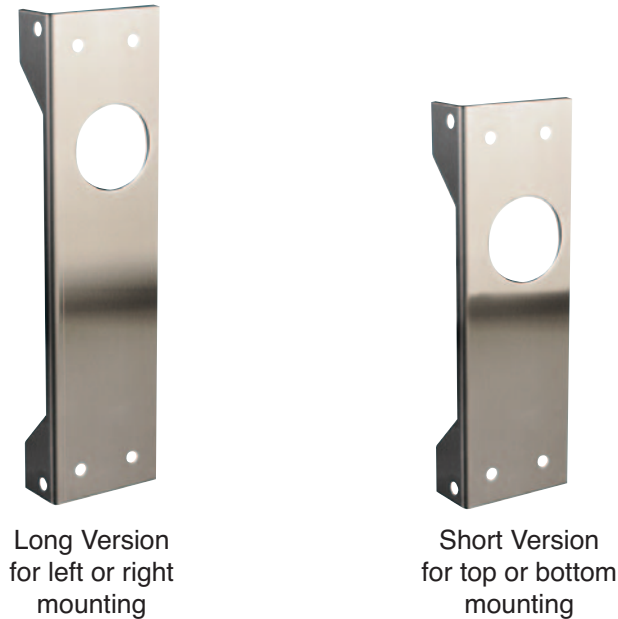

Figure F-6
As a purge and pressurization system the AP-01 requires the purged enclosure be provided with a minimum of one (1) relief valve (vent) appropriate for the configuration of the enclosure. (See Figure F-6 on page 17 for vent configurations) The purged enclosure must be capable of withstanding a minimum of 0.4 psi (11.1 inch of water) differential pressure.
All mounting holes are 9/32” diameter. (Figure F-6 below.)